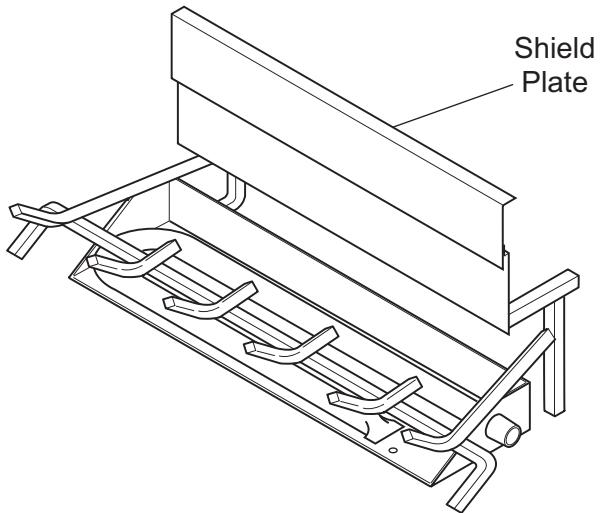

Figure 84 - Sliding Shield Plate Down Back of Burner Pan
1. Slide shield plate down back of burner pan. See *Figure 84*.